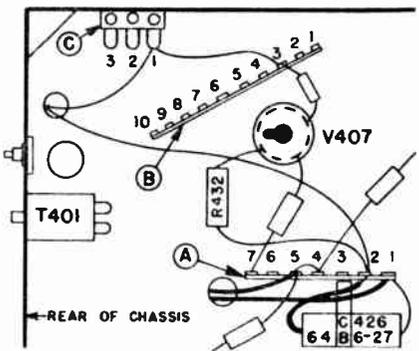

Fig. 2 MODIFIED CIRCUIT
6. Insulate one lead of a 0.5- μ f capacitor (64B6-27) with a 1-1/4" length of spaghetti tubing (96A2-5). Solder capacitor mounting strap to chassis next to terminal 3 of tie-strip "A". Connect capacitor between terminals 1 and 2 of tie-strip "A", insulated lead on terminal 2. See Fig. 2.
2. The method of presentation in Fig. 2 seems to be more in line with the actual physical arrangement. The assembly of components which are printed are shown in double lines, and shown resting on a cross-hatched block. The general impression one gleans from even the first view of this illustration is that all the parts of the illustration are one and the same. In fact the use of the double lines for the elements gives the impression of location right on the mounting plate or block, which is actually the case . . . We vote for the second method of representation.
Inasmuch as such printed circuits are assembly of components, it would be wrong to omit the mounting strip or base on which the elements are printed. It seems that showing assemblies of elements is better than some special form of symbolization for each printed element and wide separation of the elements in the circuit. The arrangement shown in Fig. 2 permits spotting the entire assembly and making the connections without confusing the schematic diagram.